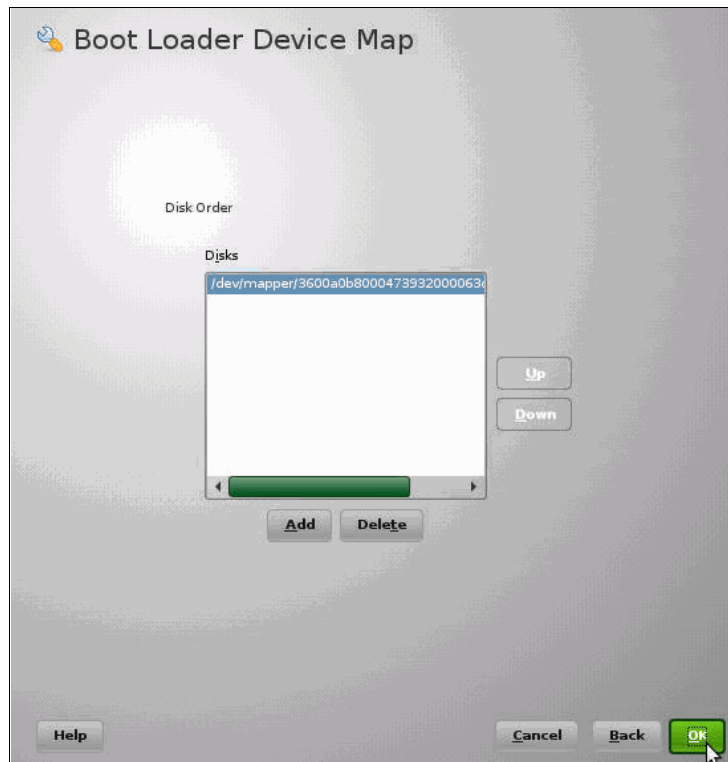

Figure 2-106 Boot loader Installation details
13. When we are in the Boot Loader Device Map panel, we are not going to make any changes here. We need to go through each panel to build the Grub at the end by clicking **OK**, as shown in Figure 2-106.